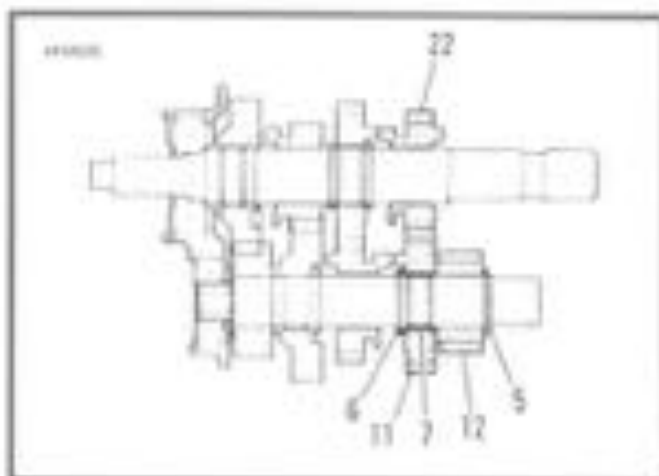

Figure 6-29.
See Figure 6-29: Using retaining ring pliers Part No. J5586 remove and discard retaining ring (5) next to countershaft 5th gear (12). Slide countershaft 5th (12), mainshaft 2nd (22) and countershaft 2nd (11) off end of shaft.
4. Remove split bearing (7) that was under gear (11) and thrust washer (8) on the countershaft.